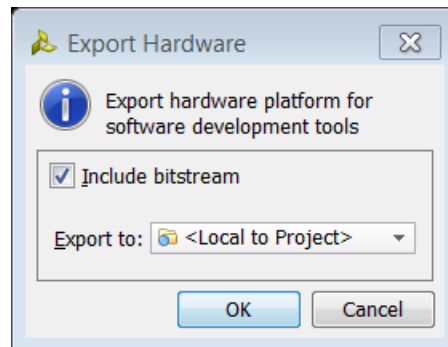

Figure 122: Export to Hardware Dialog Box
2. In the Export to Hardware dialog box, select the **Include bitstream** check box (FIGURE 122). Make sure that the **Export to** field is set to **<Local to Project>**.